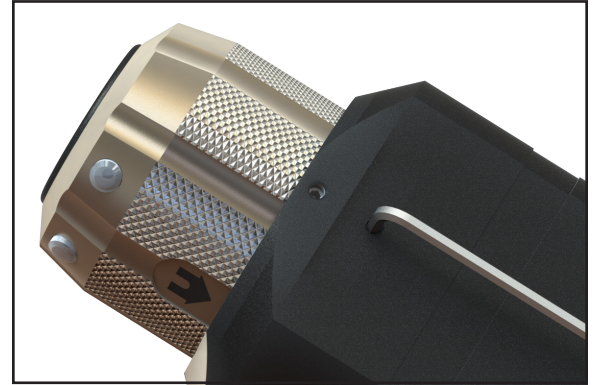

Figure 1: *Insert Large Allen Wrench*
1. Insert the short end of a 1/16" Allen wrench into the hole shown in Figure 1. Do not insert wrench into the hole closest to the knob cap!